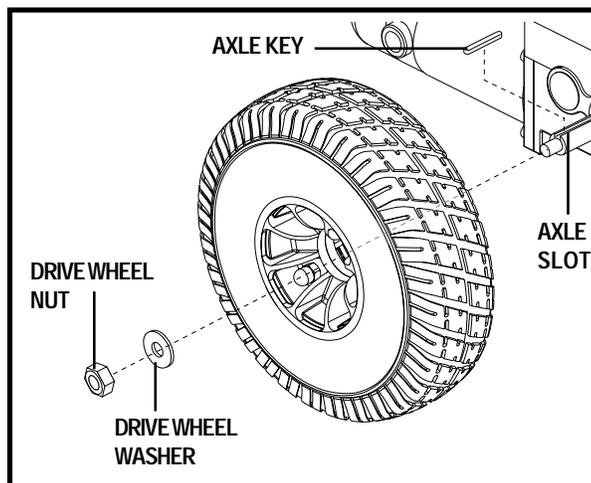

Figure 32. Quantum Dynamo 1107 Drive Wheel
4. Remove the drive wheel nut and washer from the axle. See figure 32.